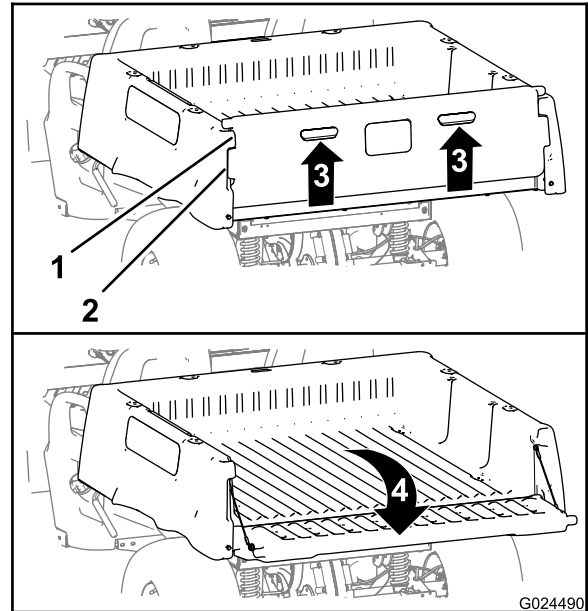

Figure 20
2. Lift up the finger pulls at the back panel of the tailgate (Figure 20).
3. Align the lock flanges of the tailgate with the openings between the tailgate flanges of the cargo bed (Figure 20).
4. Rotate the tailgate rearward and down (Figure 20).
6. Rotate the tailgate up and forward until the lock flanges of the tailgate are flush with the tailgate pocket in the cargo bed (Figure 20).
7. Lower the tailgate until it is seated in the back of the cargo bed (Figure 20).